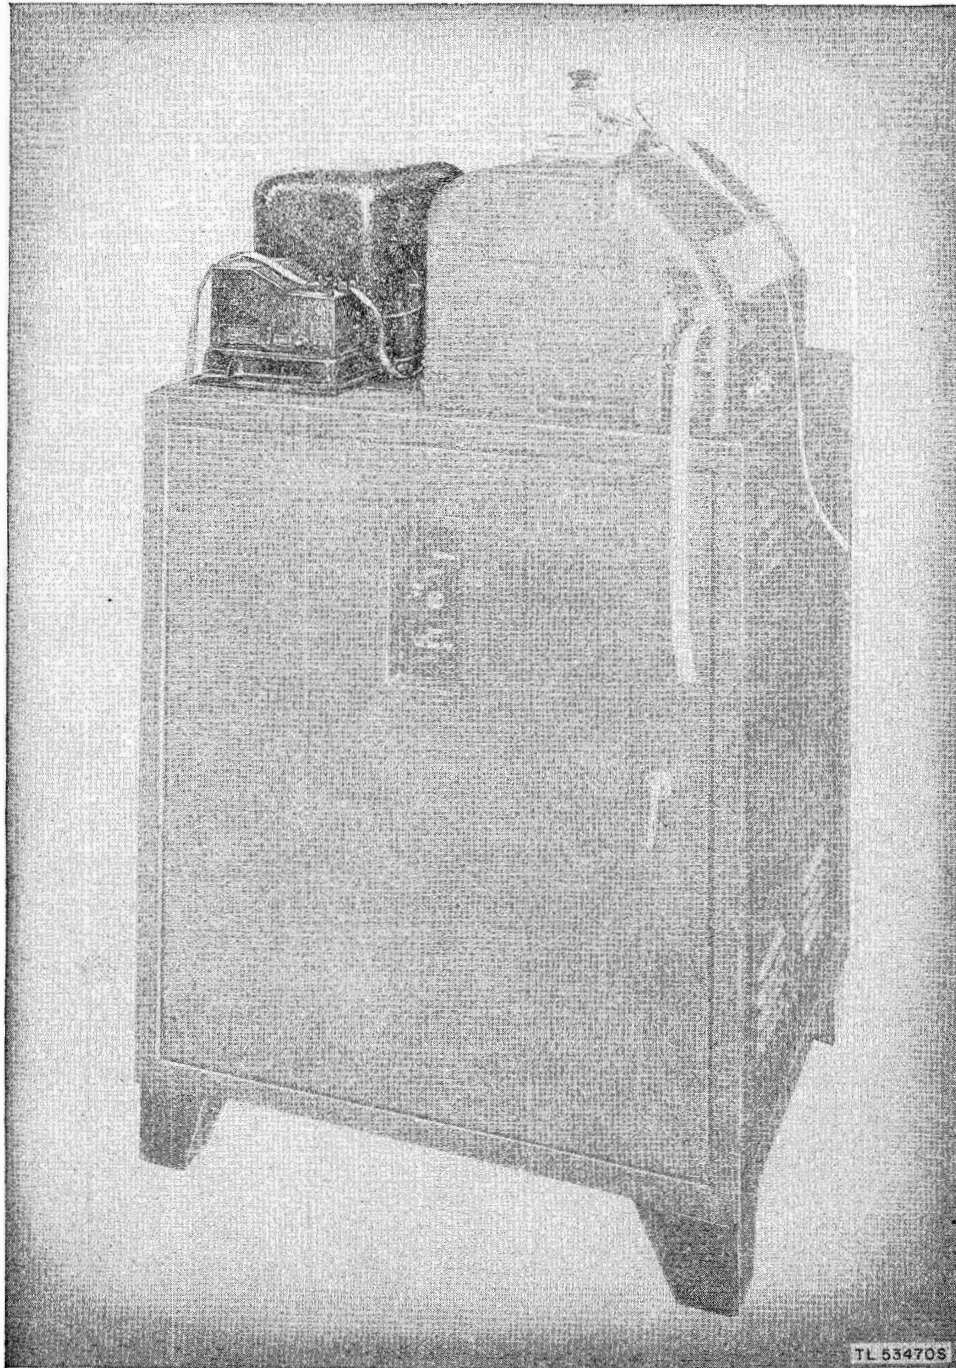

Figure 8. Transmitter Distributor TT-52/FG, in use with Teletypewriter Set AN/TGC-3.
b. USE WITH TELETYPEWRITER TT-10/FG OR TELETYPEWRITER SET AN/TGC-3 (fig. 8). When Transmitter Distributor TT-52/FG